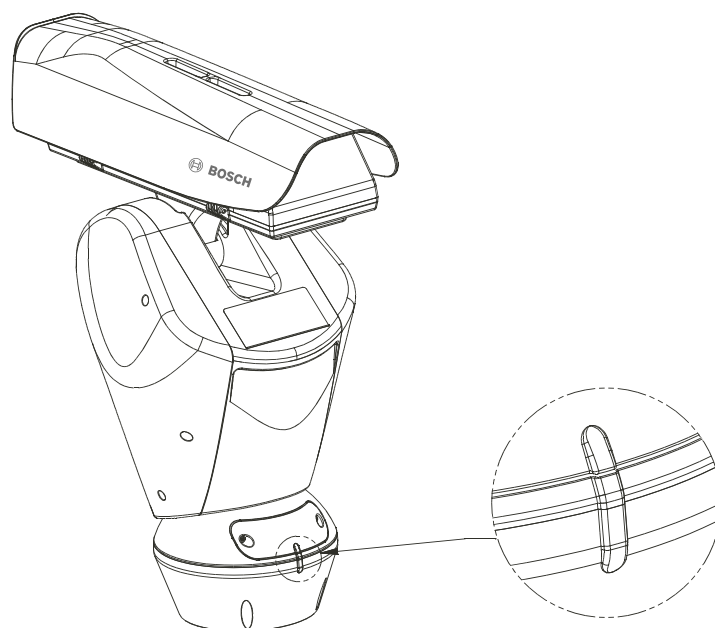

Fig. 6.2 Aligning the Tabs
4. Place the unit on the base. Align the tabs on the sides (see *Figure 6.2*) and verify that the parts are positioned correctly. Be careful not to pinch any of the wires.